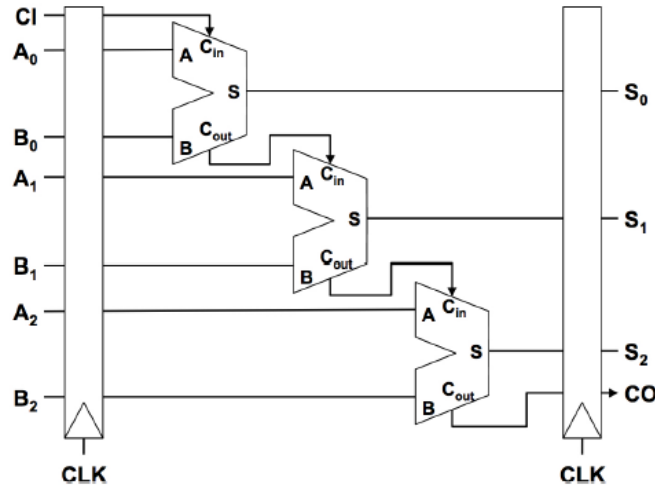

Figure 3: The three-bit adder for the ArmStrong processor.
5. **Sequential** Assume that you are designing an adder for the minimalistic 3-bit ArmStrong processor. The adder is built from three full adders such that the carry-out signal of the first adder is the carry-in signal to the second adder and the carry out from the second adder is the carry in of the third adder, as shown in Figure 3. At the input and output of the adder are two registers made up of flip-flops.